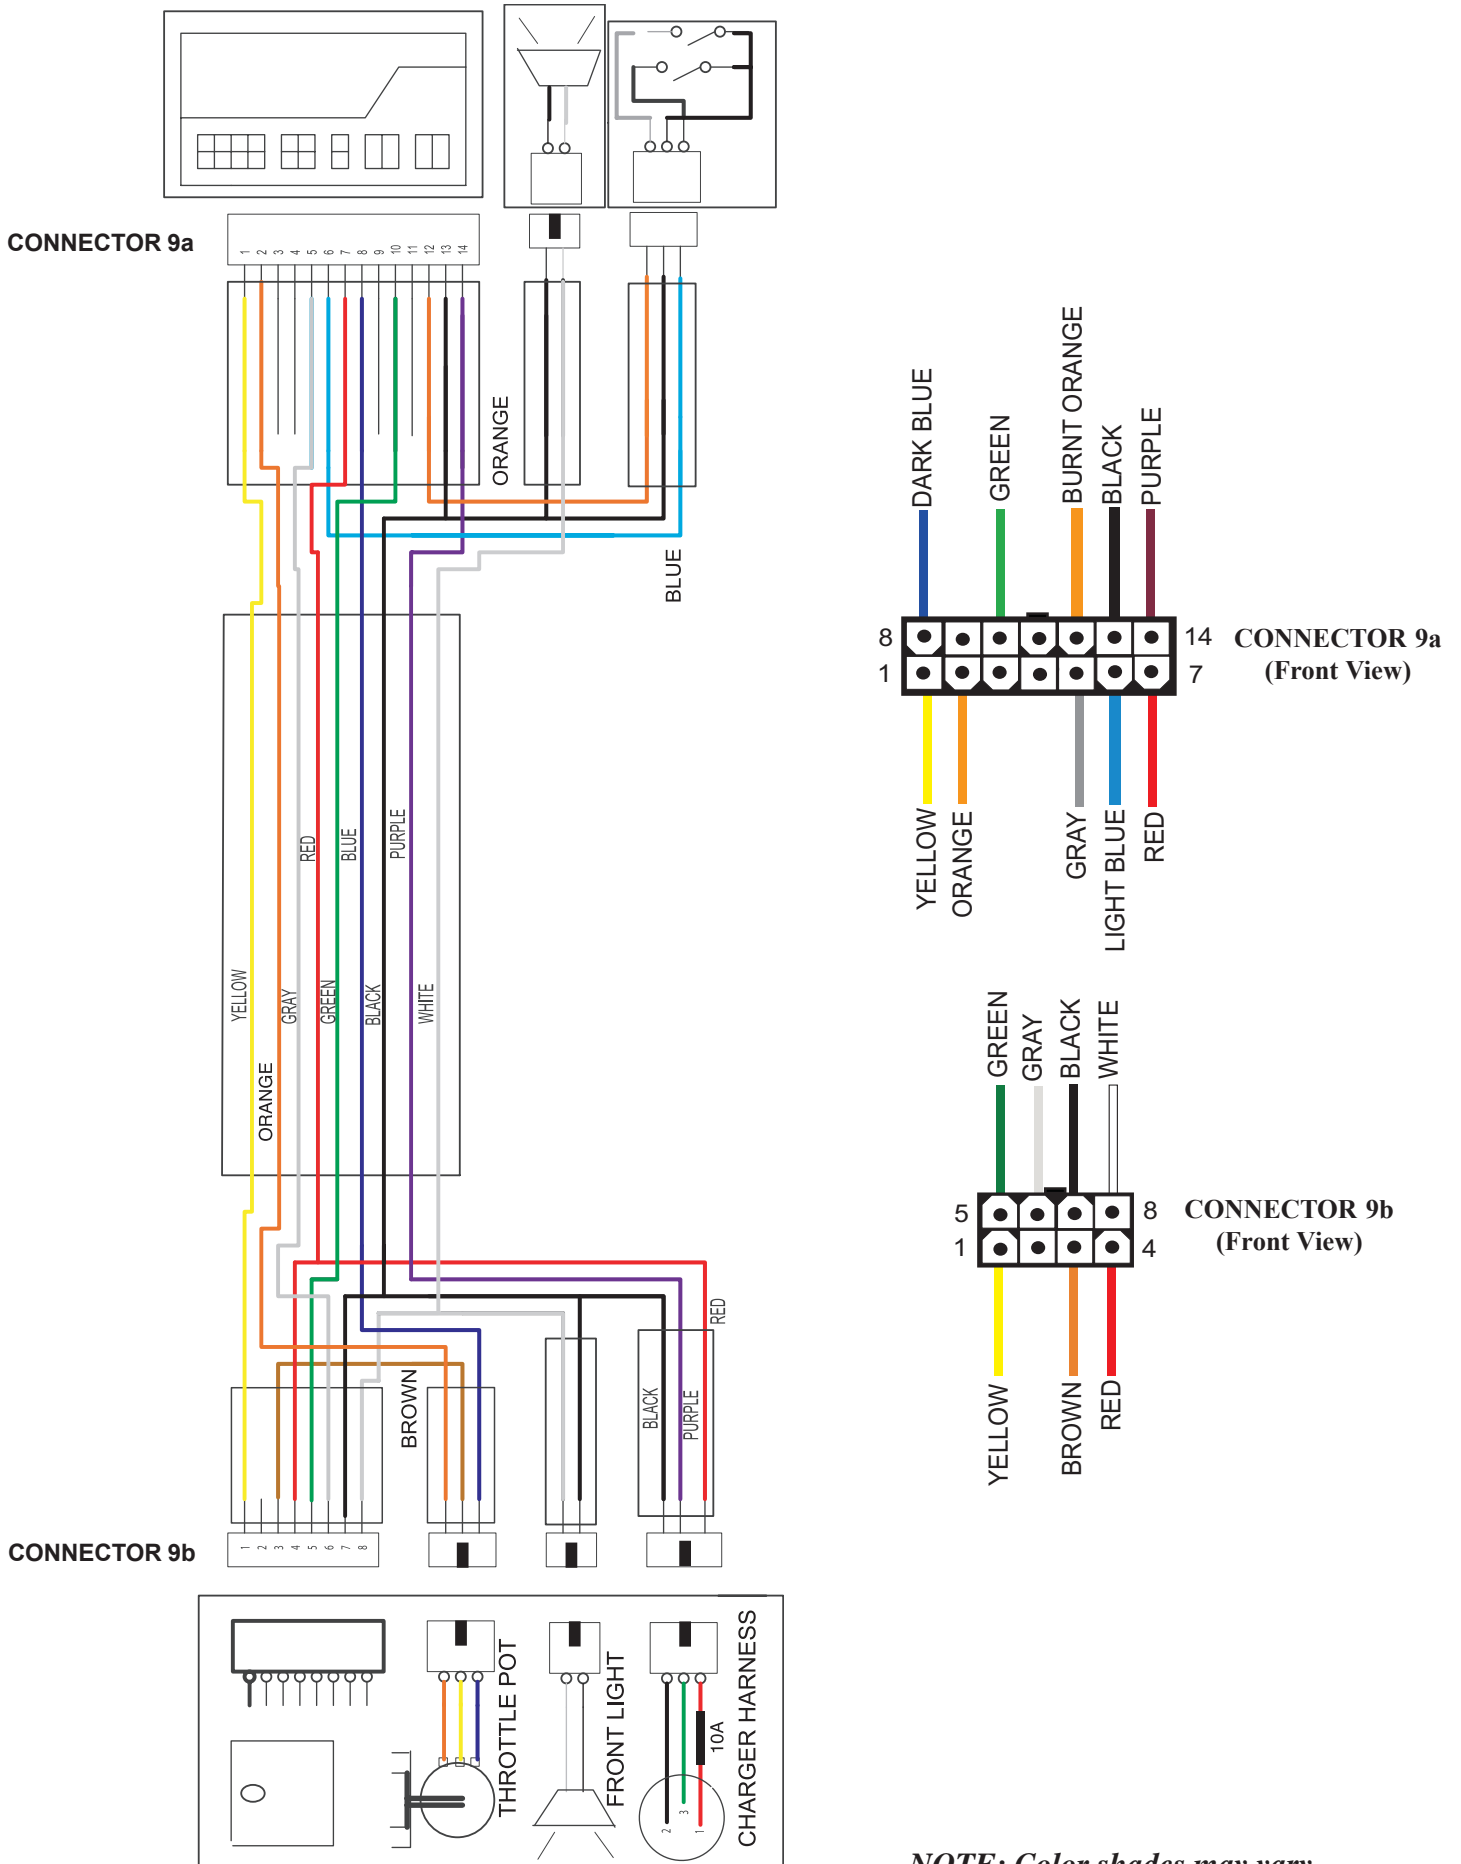

Figure 14. Companion Wiring Schematic
- 10) Insert the multimeter probes into the terminal with the red wire (pin 7) and the terminal with the black wires (pin 13) on the back of the main harness connector 9a. See figure 14 on page 11.
- 13) Measure voltage across the terminal with the black wire (pin 7) and the red wire (pin 4) on the main harness connector 9d. See figure 14 on page 11.